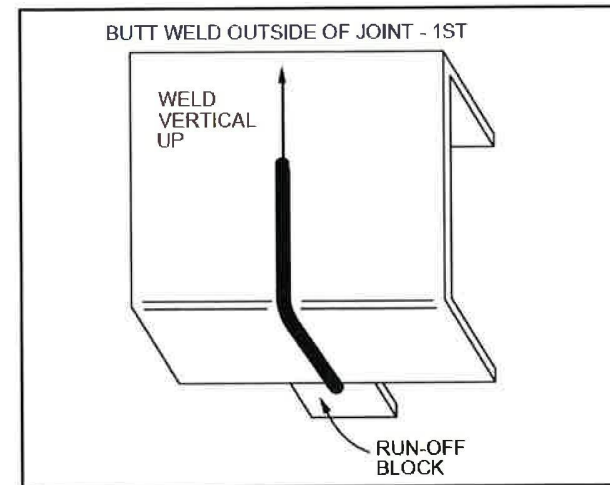

Figure 33 – Welding Outside of Frame
- Tack weld run-off blocks to the edge of the upper and lower flanges of the frame and frame insert (See Figures 33 and 34). This procedure is recommended to eliminate joint edge burnout and to prevent movement during the butt weld procedure.
- Butt weld the ends of the frame insert to the frame. Butt welds on the outside surface of the frame should be done with a single pass, vertical, up. (See Figure 33)